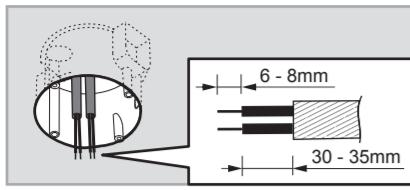

FIG.8
4.4.1.2 Pull out AC power cables from European standard junction box then strip off 6 - 8mm of cable sheathing for wiring (See FIG.8).